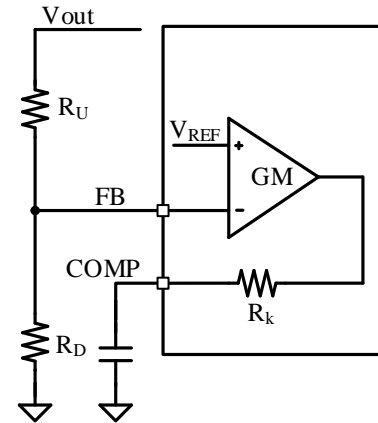

Figure 6. Output voltage feedback circuit
SY5072B regulates the boost output voltage using a trans-conductance internal error amplifier (EA). The inverting terminal of the EA is pinned out to FB, the non-inverting terminal is connected to an internal 1.25V voltage reference, and the EA output is pinned out to COMP (Figure 6).